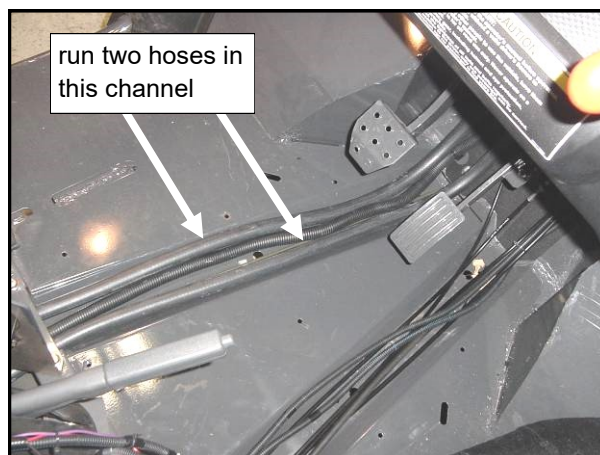
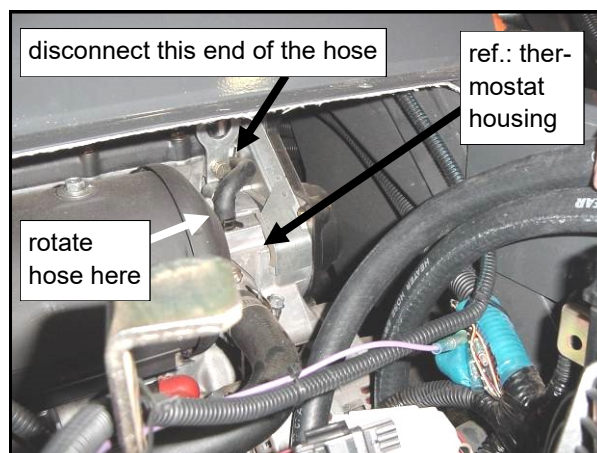

Fig. 3.1 (view from passenger's side of vehicle)
Fig. 3.2 (view from front of vehicle)
3.1 Cut the supplied heater hose into three lengths as follows: three pieces at 35" long, one piece at 52" long, and one piece at 72" long. Per fig. 3.1, run the two longest hoses (52" and 72") in the floor channel as shown from under the hood to the thermostat housing shown in figure 3.2.
3.2 Fig. 3.2 shows the driver's side of the engine compartment. Per fig. 3.2, disconnect the short 3/8" diameter by-pass hose where indicated in the photo, then rotate the hose where indicated. To disconnect, pinch and slide the clamp down and pull hose off. To rotate the hose towards the front of the vehicle, pinch and slide the clamp up. Rotate the hose and re-clamp in place.